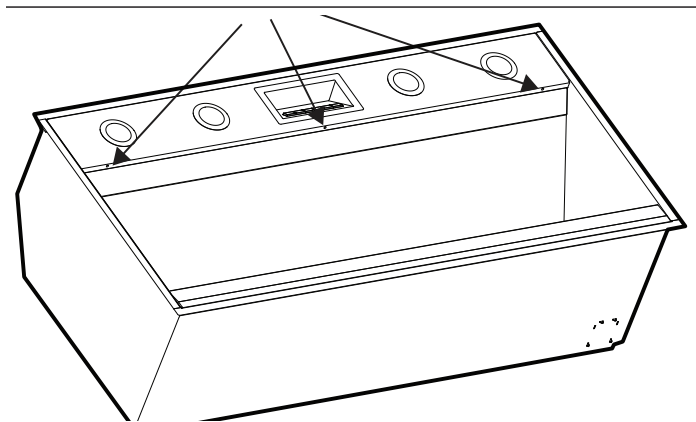
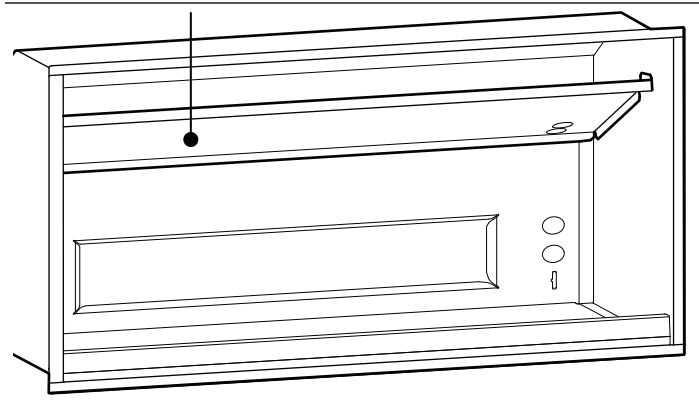

Figure 15: Remove stainless steel panel
Figure 16: Remove core partition
- d) Remove core partition (*Figure 16*).
6. Reinstall hood components from *Figure 15* and *Figure 16*.